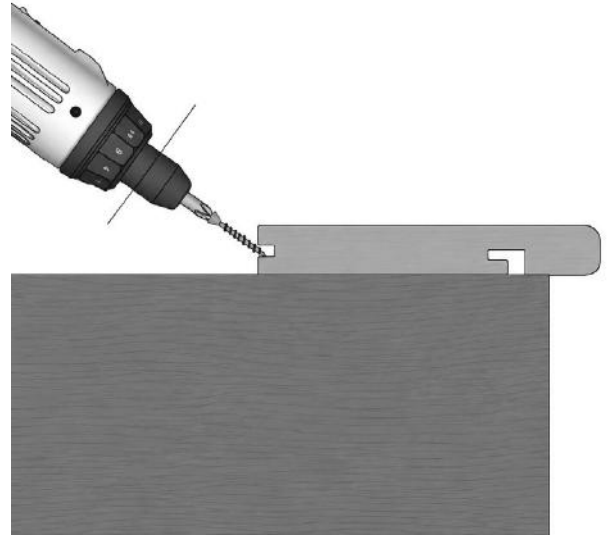

FIG. 22 – EDGE BOARD SCREWED THROUGH THE CLIP GROOVE AT 45°
- 02 With the edge board in place, screw through the hidden-clip groove at a 45° angle, securing it to the joist (fig. 22). Pre-drill pilot holes in the deck boards 2 mm wider than the screw shank; do not over-drive screws into the deck boards, to avoid the material splitting.